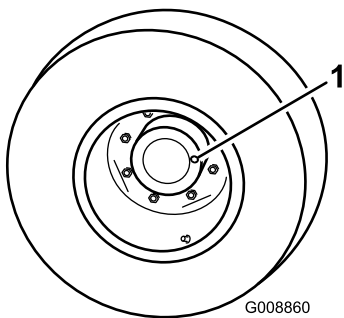

Figure 43
- With the machine on a level surface, position the wheel so that the check/drain plug (Figure 43) is at either the 3 or 9 o'clock position.
- Remove the plug on the planetary (Figure 43). Oil should be at the bottom of the check plug hole on the back side of the brake.